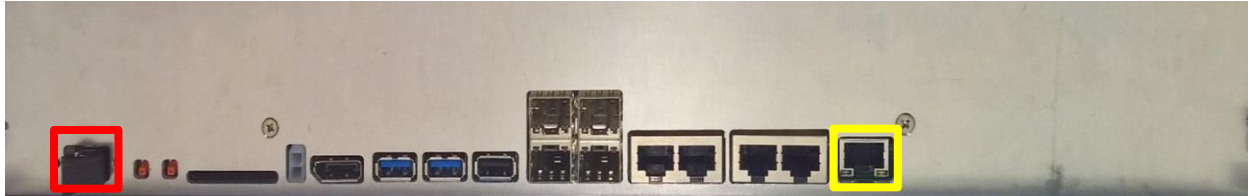

Figure 2: Root card front panel: power switch (red mark) and the management port (yellow mark).
6. To switch the 1st chassis on, press the power switch on the left side of the Root card front panel (marked in red in Figure 2).
After one minute from the power on, the BMC of the root card will be booted. The BMC will request an IP address for the management port on the right side of the root card front panel (marked in yellow in Figure 2). After the boot, the controller will start to power on the devices in the chassis as follows: